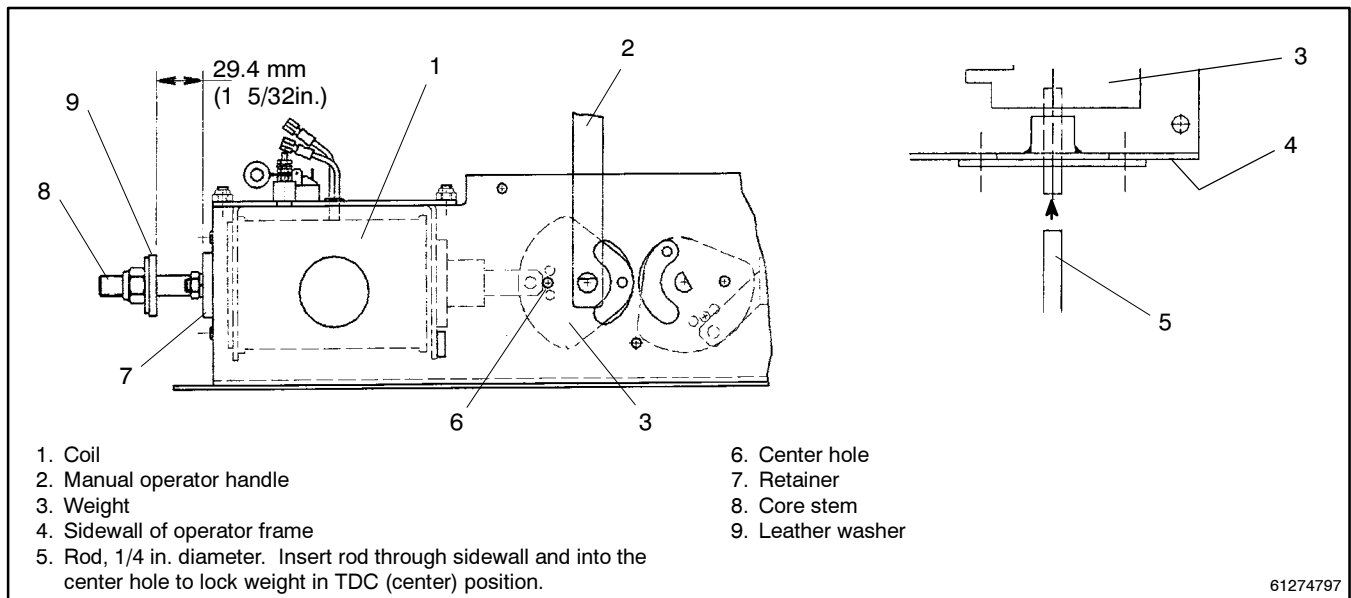

Figure 10-3 Rod Inside of Solenoid Operator Weight (shown on its side)
3. Put the switch in the center position (TDC). Use the manual handle to open the contacts until a 1/4 in. diameter rod (drill) can be inserted into the center hole in the side of the weight. It will hold the operator in the top-dead-center position and the contact shaft in a mid position. See Figure 10-3.
1. Close the bottom main contacts. Remove the 1/4 in. rod (Figure 10-3) while using the manual operator handle to put the switch in the NORMAL position (bottom contacts closed).